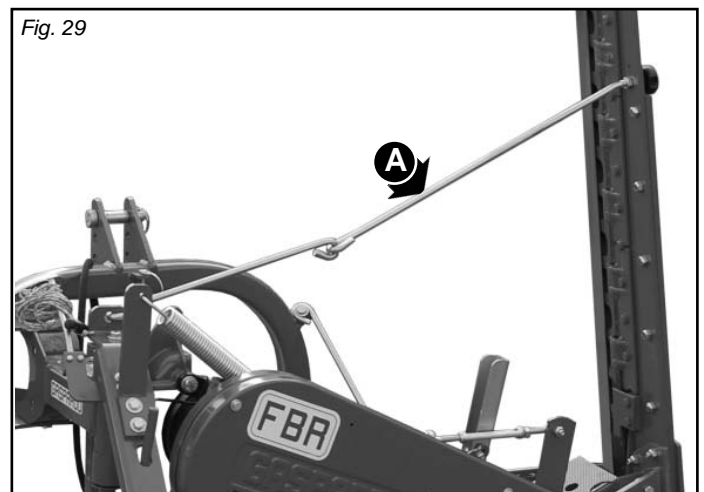

Fig. 29
- Remove tie rod (A, Fig. 29) from the cutting arm and secure it in its seat.